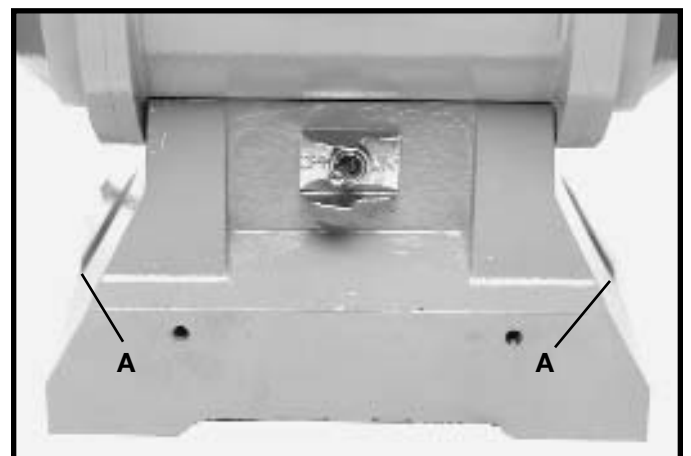

Fig. 9
IF DURING OPERATION THERE IS ANY TENDENCY FOR THE GRINDER TO TIP OVER, SLIDE OR “WALK” THE GRINDER MUST BE SECURED TO A SUPPORTING SURFACE, SUCH AS A WORK BENCH, THROUGH THE HOLES (A) FIG. 9, IN THE GRINDER BASE.